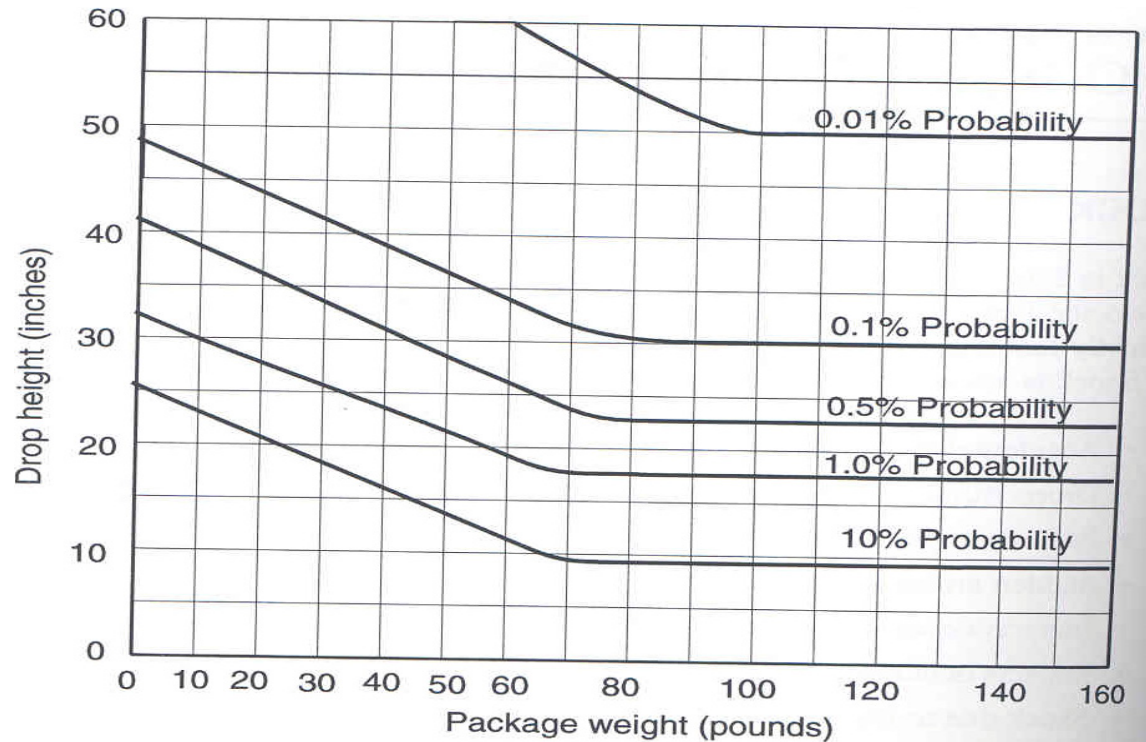

Figure 12.2 Generalized drop-height probability curves. The curves flatten out at the point where mechanical handling predominates.
- generalized drop probability curves (Figure 12.2) illustrating another predictable feature of manual handling: the lighter the package, the higher the probable drop height.